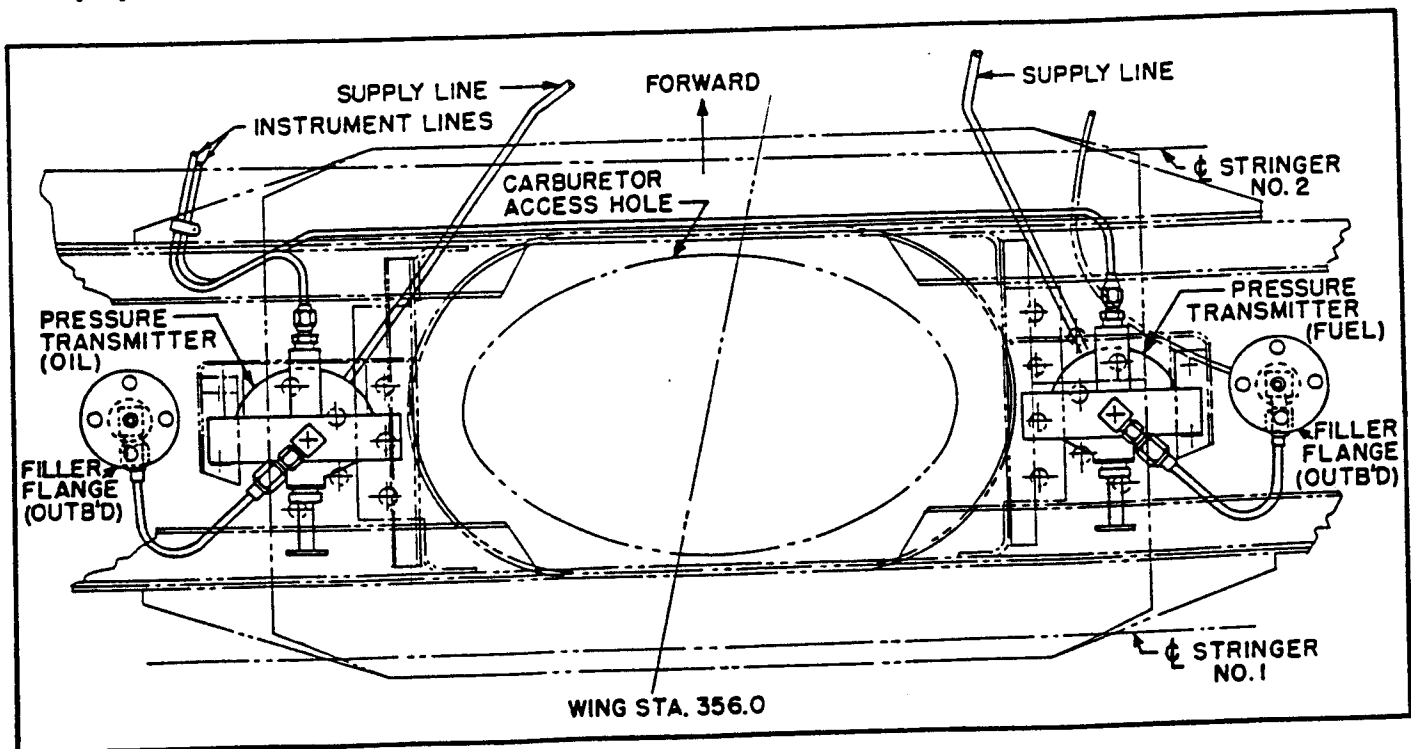

Figure 10. Pressure Transmitter
d. TRANSMITTERS, PRESSURE TYPE AN5765-2 (See figure 10.)
(1) REMOVAL.- Disconnect the lines from the transmitter. Remove safety wire. Remove the four attaching screws. Remove the transmitter. All lines and connections should be capped.